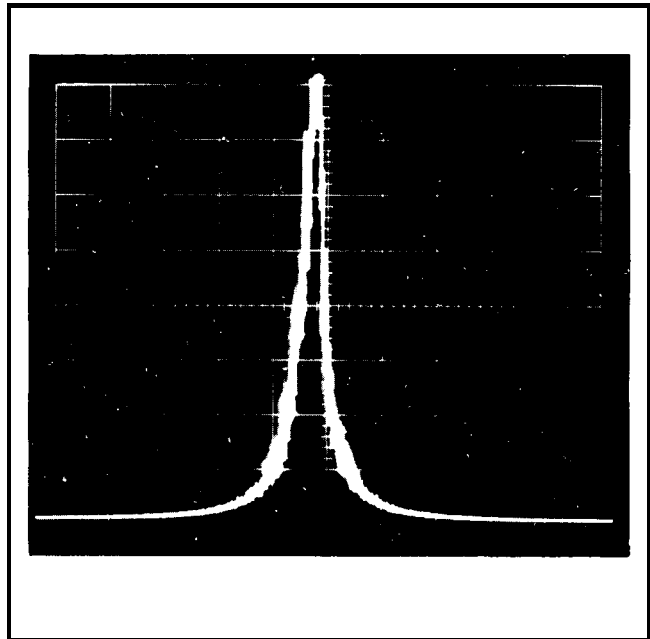

Fig. 6-37. Typical display showing incidental frequency modulation,
- f. Check the display frequency modulation (see Fig. 6-37). Must not exceed 1 minor division (≤ 200 Hz).